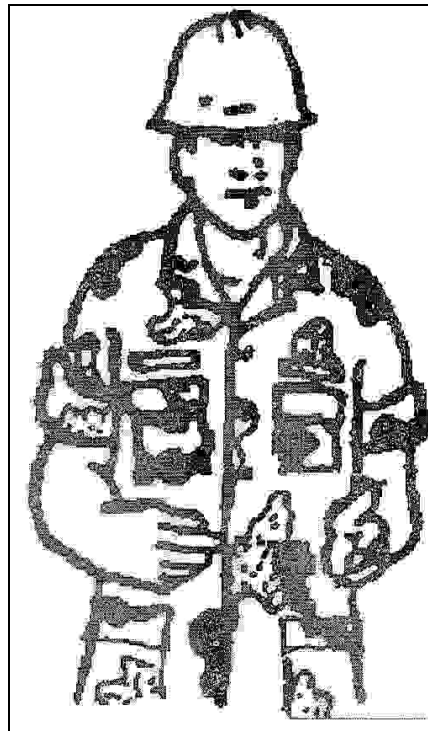

Figure 3-85. Side Shift Load
7. Use the signal to indicate SIDE SHIFT LOAD (see Figure 3-85).